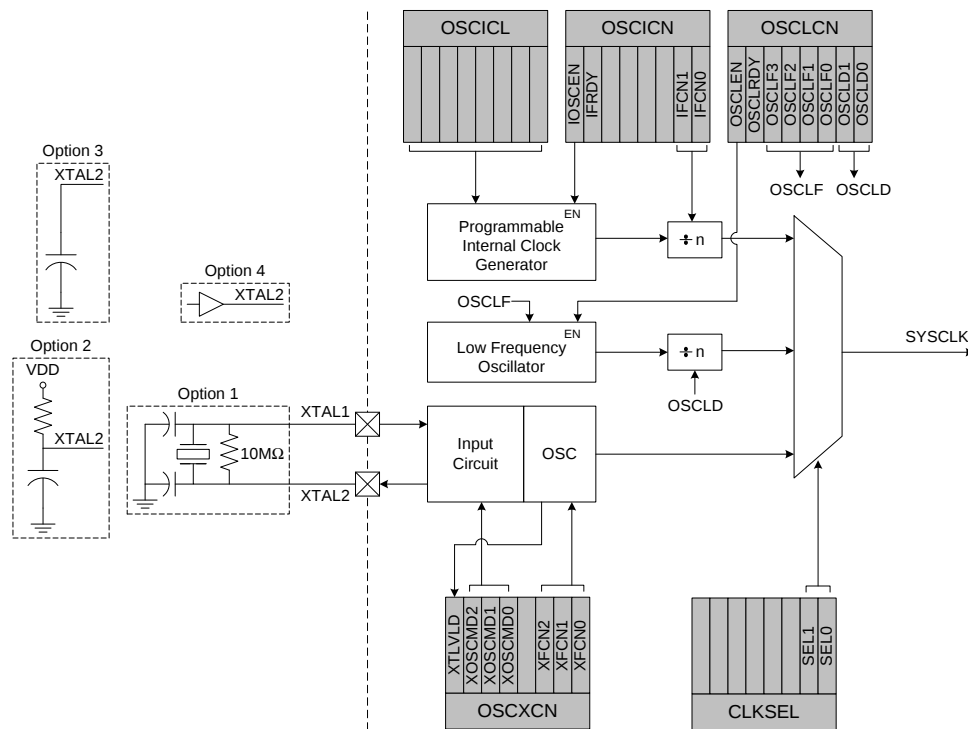

Figure 13.1. Oscillator Diagram
C8051F330/1/2/3/4/5 devices include a programmable internal high-frequency oscillator, a programmable internal low-frequency oscillator, and an external oscillator drive circuit. The internal high-frequency oscillator can be enabled/disabled and calibrated using the OSCICN and OSCICL registers, as shown in Figure 13.1. The internal low-frequency oscillator can be enabled/disabled and calibrated using the OSCLCN register, as shown in SFR Definition 13.3. The system clock can be sourced by the external oscillator circuit or either internal oscillator. Both internal oscillators offer a selectable post-scaling feature. The internal oscillators' electrical specifications are given in Table 13.1 on page 122.
The external oscillator circuit may drive an external crystal, ceramic resonator, capacitor, or RC network. A CMOS clock may also provide a clock input. For a crystal or ceramic resonator configuration, the crystal/resonator must be wired across the XTAL1 and XTAL2 pins as shown in Option 1 of Figure 13.1. A 10 M $\Omega$  resistor also must be wired across the XTAL2 and XTAL1 pins for the crystal/resonator configuration. In RC, capacitor, or CMOS clock configuration, the clock source should be wired to the XTAL2 pin as shown in Option 2, 3, or 4 of Figure 13.1. The type of external oscillator must be selected in the OSCXCN register, and the frequency control bits (XFCN) must be selected appropriately (see SFR Definition 13.4).
**CRYSTAL MODE** (Circuit from Figure 13.1, Option 1; XOSCND = 11x)
**RC MODE** (Circuit from Figure 13.1, Option 2; XOSCND = 10x)
**C MODE** (Circuit from Figure 13.1, Option 3; XOSCND = 10x)
If a crystal or ceramic resonator is used as an external oscillator source for the MCU, the circuit should be configured as shown in Figure 13.1, Option 1. The External Oscillator Frequency Control value (XFCN) should be chosen from the Crystal column of the table in SFR Definition 13.4 (OSCXCN register). For example, an 11.0592 MHz crystal requires an XFCN setting of 111b and a 32.768 kHz Watch Crystal requires an XFCN setting of 001b. After an external 32.768 kHz oscillator is stabilized, the XFCN setting can be switched to 000 to save power. It is recommended to enable the missing clock detector before switching the system clock to any external oscillator source.